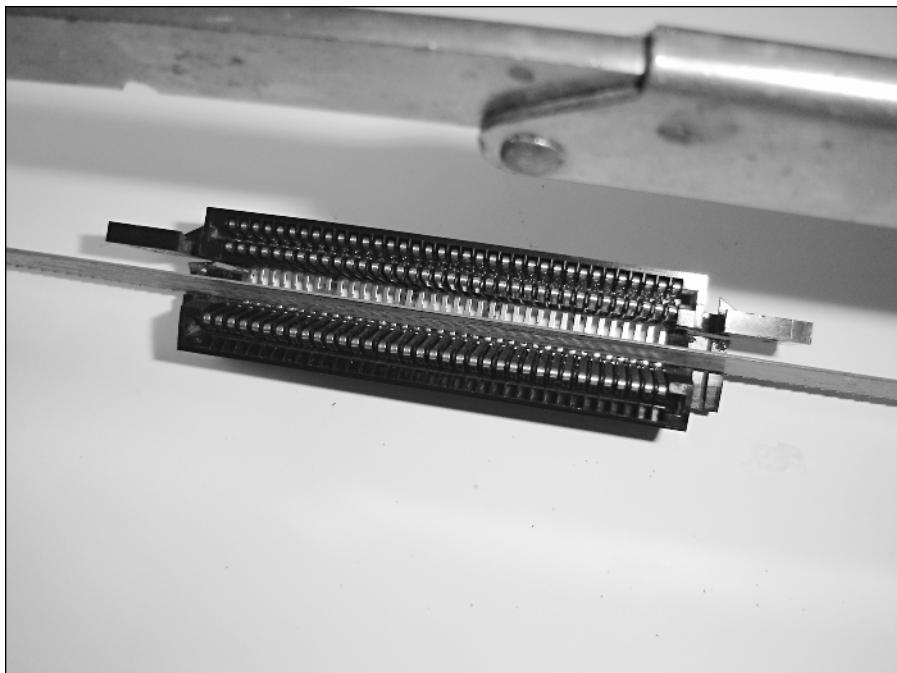

FIGURE 8-10: Saw through the pins like this.
8. Flip the cartridge connector around. The only thing holding the ends together now are the other thirty-six pins on the inside. Place your hacksaw blade inside the cartridge connector and saw away at the pins as shown in Figure 8-10.